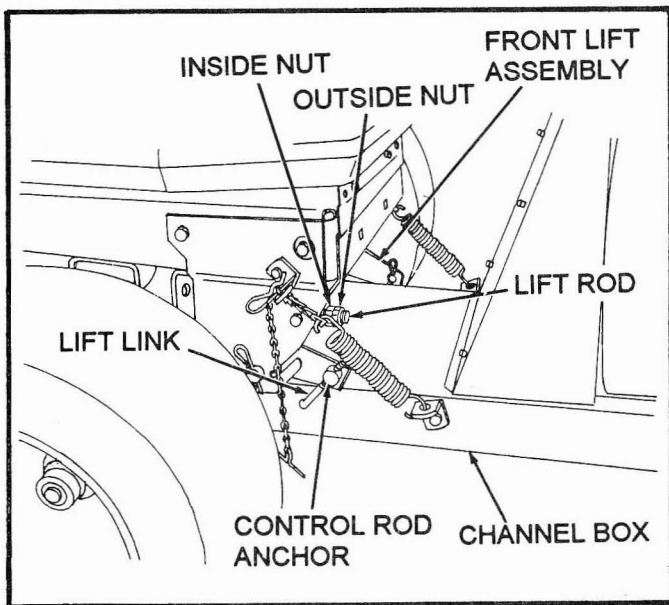

FIG. 25
- Loosen outside nut at end of lift rod. (See Fig 25)